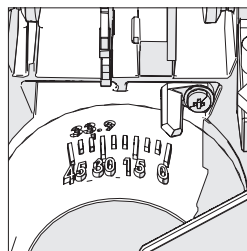

Fig. 7
- Ensure that the cutting head is upright, against its stop and the bevel pointer is indicating 0° on the scale (Fig. 7).